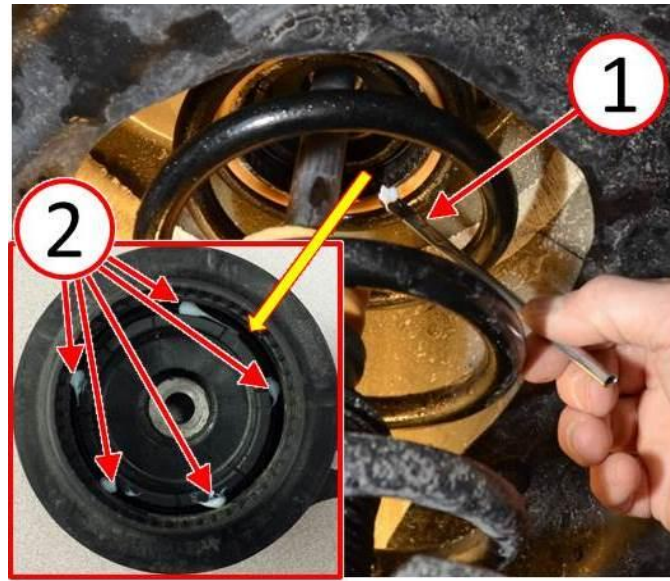

Fig. 2 Apply Nye Lubricant
4. Use a brush (1) to apply Nye® lubricant to five locations (2) spaced evenly around the strut mount bushing (Fig. 2).